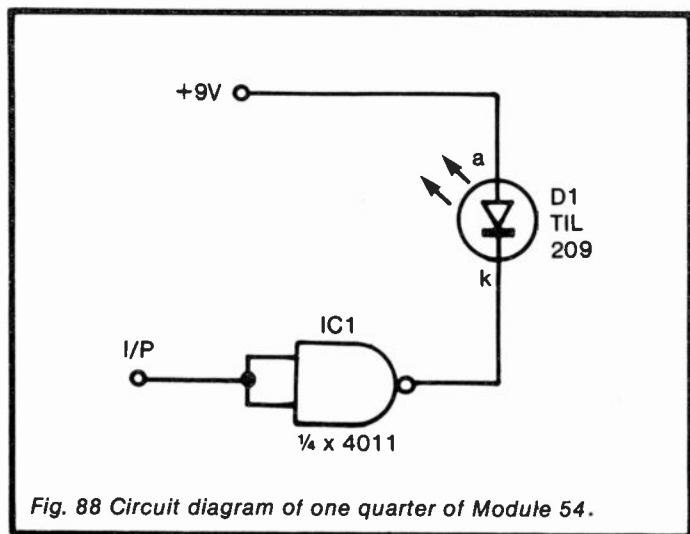

Fig. 88 Circuit diagram of one quarter of Module 54.
*Circuit diagram:* the module consists of 4 inverters and LEDs connected as shown in Figure 88.